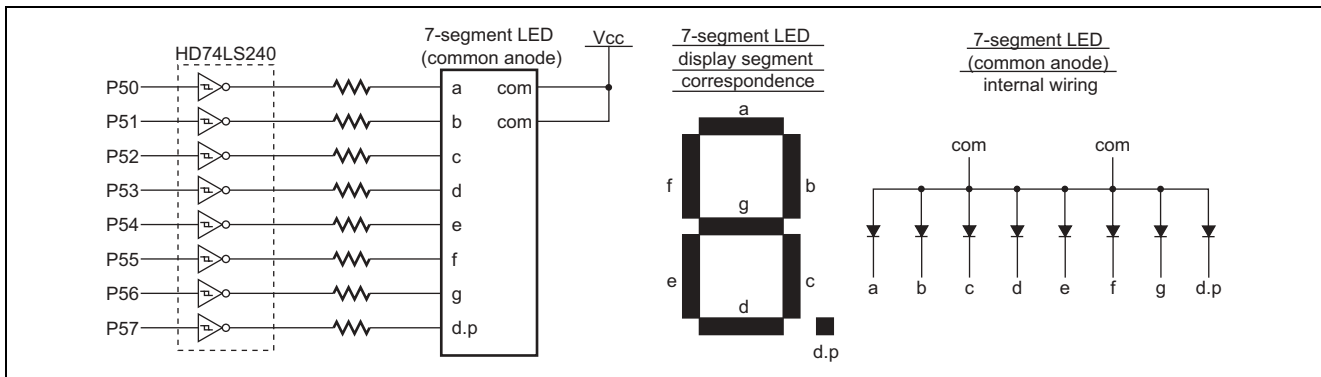

Figure 2.2 7-Segment LED Connections and Internal Wiring
2. Figure 2.2 shows how the 7-segment LED used in this task is connected. A high output from port 5 lights up the corresponding segment as shown by the figure. Table 2.2 shows the relationship between the output from port 5 and the display on the LED.